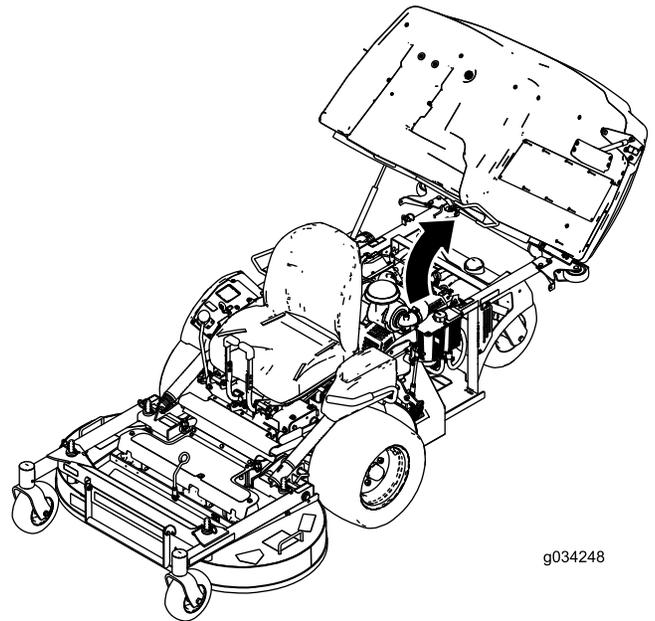

Figure 28
1. Raise up the hopper (Figure 28).